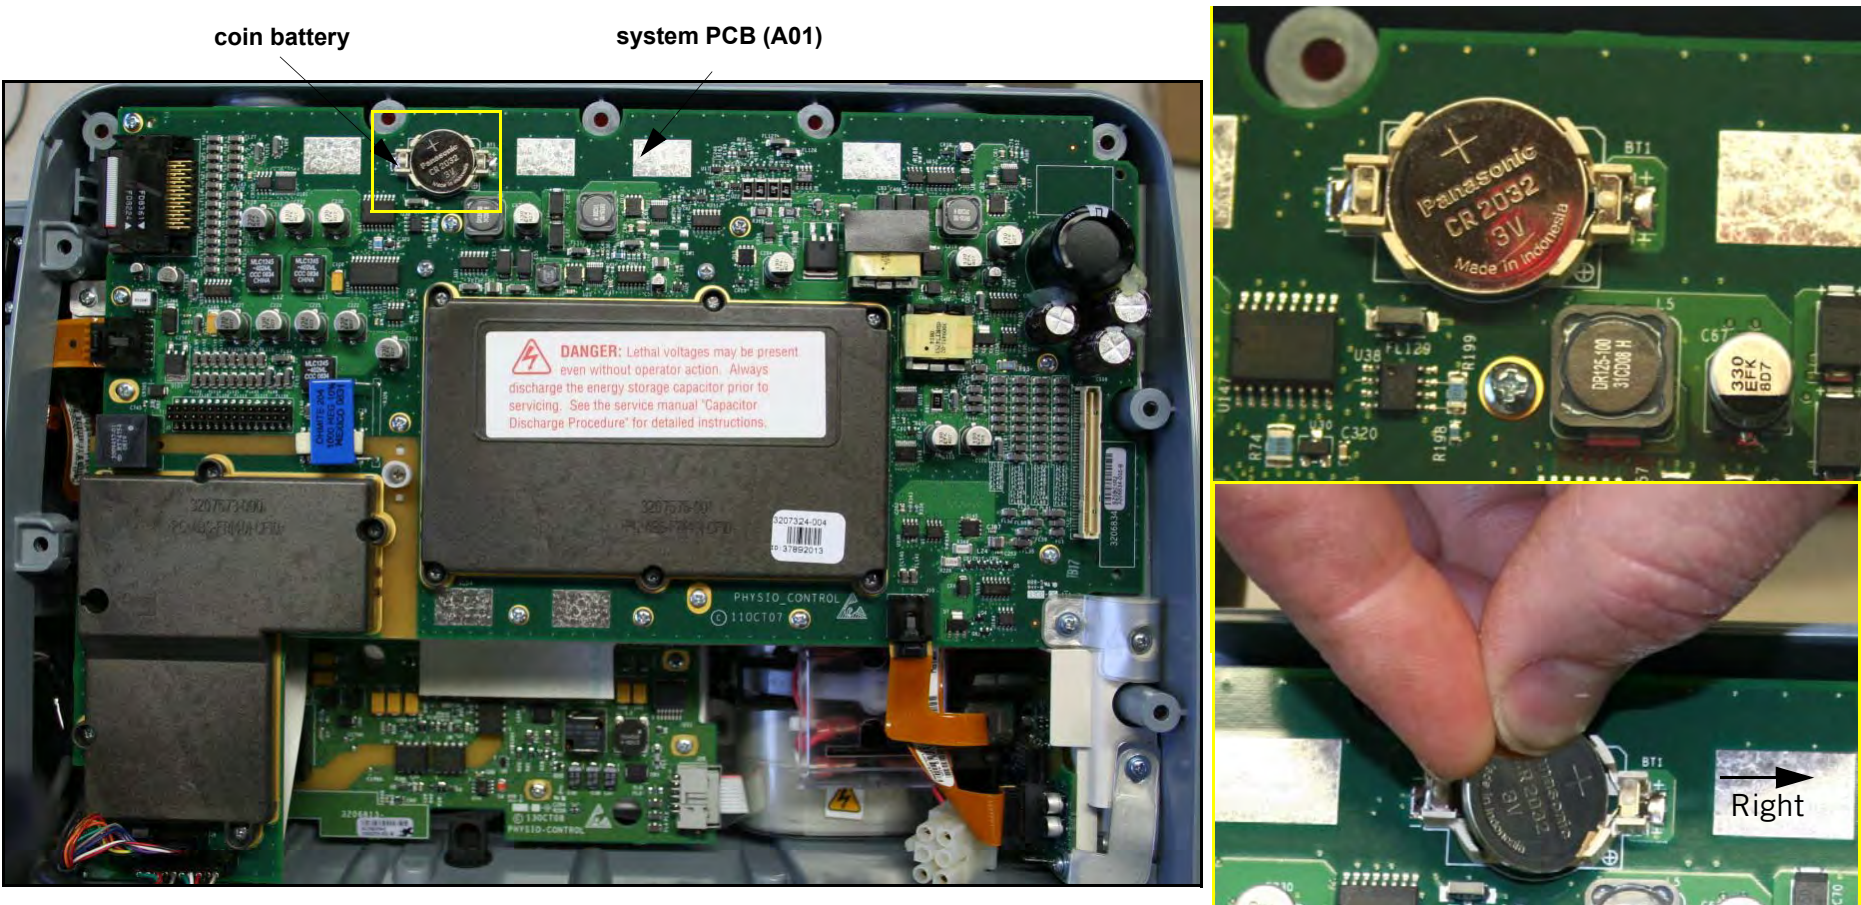

Figure 8.124—Coin battery location
2. With the new coin battery, (202305-000) (type CR2032), at hand, lift up from below the coin battery to remove. The coin battery will pop out of the holder. To install, slide in the new battery with (+) terminal up, place battery into right side of battery holder first. Press down to secure (see Figure 8.124 on p. 362).